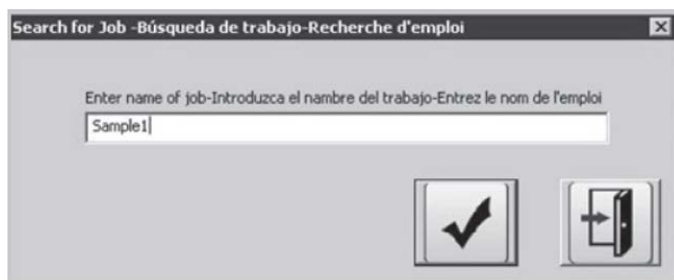

FIGURE 25
The Job Select screen includes the following items which are identified by number on Figure 25:
5. A popup window will appear to enter job name to search (Figure 25)